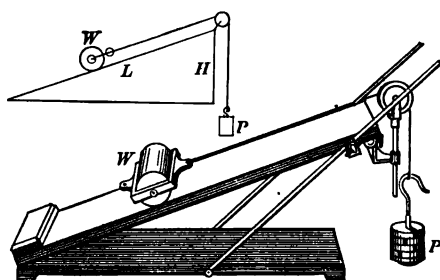

FIG. 31. — Inclined plane.
Suppose we arrange a very smooth plane, such as a piece of plate glass, at an angle, as shown in figure 31. Let the weight or load (W) be a heavy metal cylinder which turns with very little friction. Attach to the cylinder a cord and pass it over a good pulley fastened to the top of the plane, and then hang from the other end enough weights to pull the load slowly up the inclined plane. You will find that the ratio P/W is approximately the same as the ratio H/L , where H is the height of the incline and L is its length.